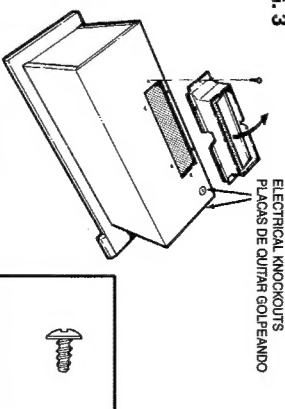

FIG. 4
4. **Set housing into opening.** (FIG. 4)
4. **Ponga el bastidor dentro del hueco.** (FIG. 4)